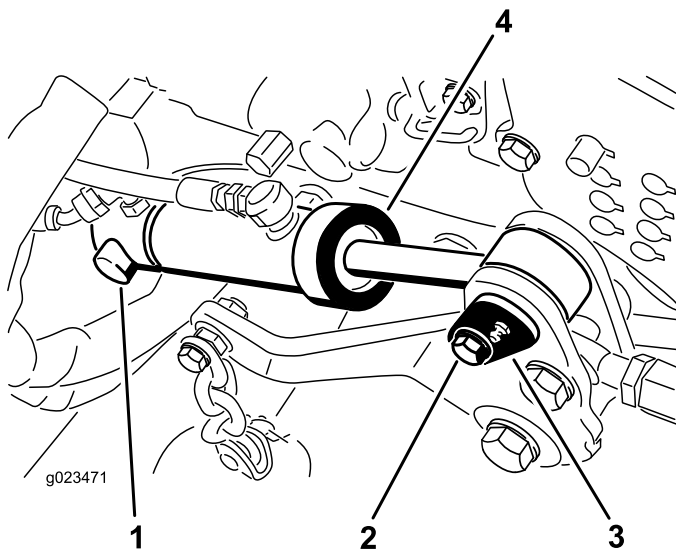

Figure 13
13. Install the rear of the deck-lift cylinder onto the pivot pin and secure it with the retaining ring (Figure 13).
14. Secure the front of the lift cylinder to the mower frame with the cylinder pin and screw (Figure 13).